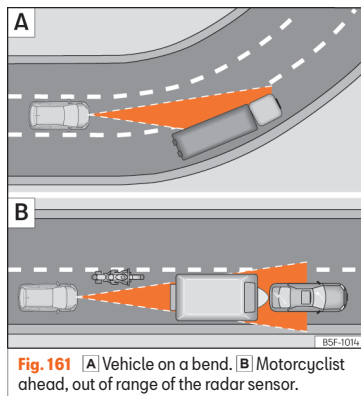

Fig. 161 [A] Vehicle on a bend. [B] Motorcyclist ahead, out of range of the radar sensor.
The ACC may not detect the vehicle in front on a curve, or may regulate the distance from vehicles in other lanes » **Fig. 161 [A]**.
- Vehicles that are not aligned while driving or that are outside the sensor's detection area, such as motorcycles » **Fig. 161 [B]**